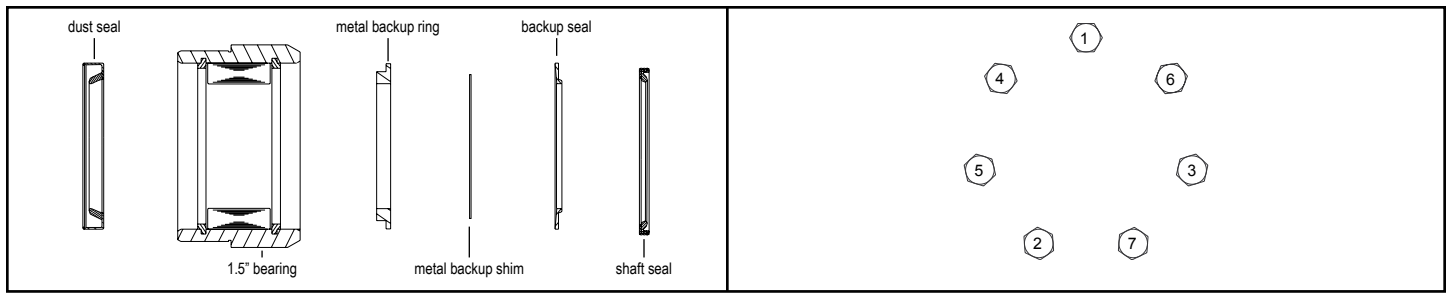

FIGURE 1
- A) Remove all shaft related components from shaft (29) (i.e. keys, wire rings, nuts, etc.). Secure motor in vise by clamping on to housing. Remove retaining ring (12) from groove in pilot of housing (17). Remove spacer (13) from housing (17). Remove shaft (29) from housing (17) then remove bearing (14), thrust bearing (16) and two thrust washers (15) from shaft (29).
- B) Being careful not to drop any rolls from bearing (14), pry out shaft seal (5), backup seal (4) backup shim (3a), and dust seal (1) from bearing assembly (14). (NOTE: Metal backup ring (3) may or may not come out of bearing (14). It is not necessary to remove the metal backup ring (3) from the bearing (14) to service the motor.) Remove high pressure seal (2) from groove in pilot of housing (17) discard shaft seal (5), backup seal (4) backup shim (3a) and high pressure seal (2).
- D) Install high pressure seal (2) in to groove in pilot of housing (17). Place shaft on a clean, flat surface with output end facing up. Place thrust washer (15), thrust bearing (16) and second thrust washer (15) over shaft (29). Carefully place shaft seal (5) over shaft (29) making sure that lip on seal faces down (See Figure 1). Repeat process for backup seal (4) making sure that lip faces down. Install backup shim (3a). If metal backup ring (3) came out of bearing (14), place over shaft (29) making sure that large O.D. side faces down. Lightly grease bearing (14) if needed. Place bearing (14) over shaft making sure that the large O.D. side faces down. Using an arbor press, careful press bearing (14) down to press seal assembly (3-5) into bearing (14).
- E) Place shaft (29) assembly into housing (17). Install dust seal (1) over shaft (29) with lip facing up (See Figure 1) and carefully press the seal down to seat it in the bearing (14). Place bearing spacer (13) over shaft (29). Install retaining ring (12) into groove in housing pilot (17). (NOTE: It may be necessary to lightly tap the snap ring (12) and bearing spacer (13) to allow the retaining ring (12) to seat properly.) Replace all shaft related components (i.e. keys, wire rings, nuts).